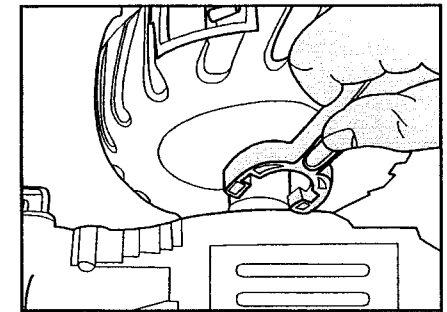

Fig 18
- 3) Slide the Tire Removal Tool over the axles to push out the RETAINER CLIPS (**Fig 18**).